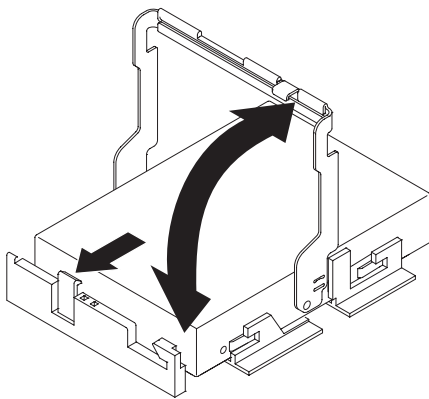

Figure 69. Raising the drive handle
- a. Raise the drive handle to the vertical position, as shown in Figure 69.